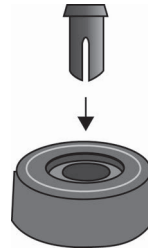

Figure 23. Inserting the Rivet Housing into the Bumper Foot
3. Insert a rivet housing into a bumper foot shown in Figure 23 on page 54.